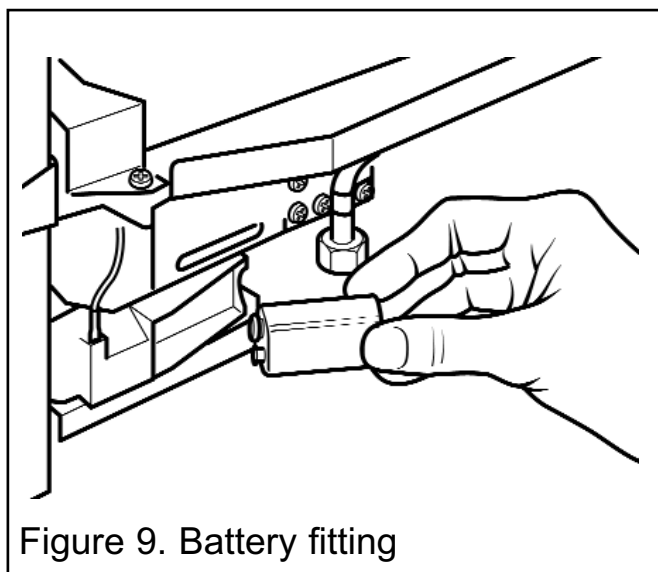

Figure 9. Battery fitting
- Fit the new battery firmly to the connections on the ignition block (See figure 9).